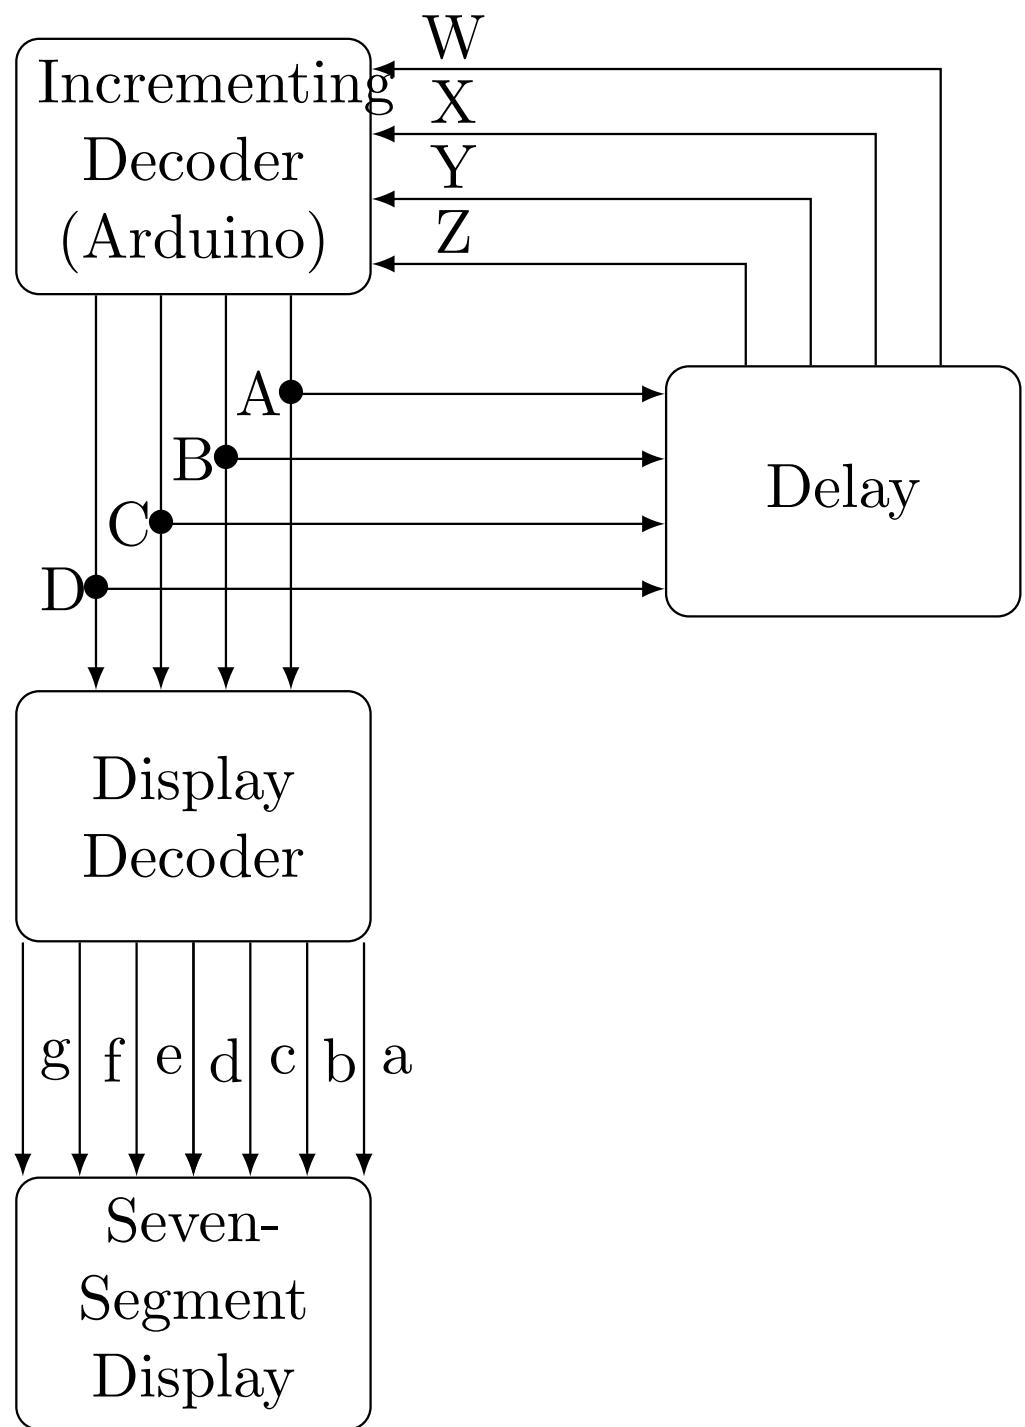
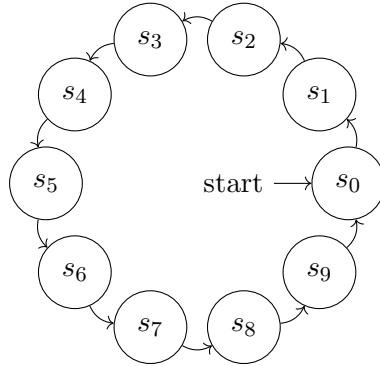
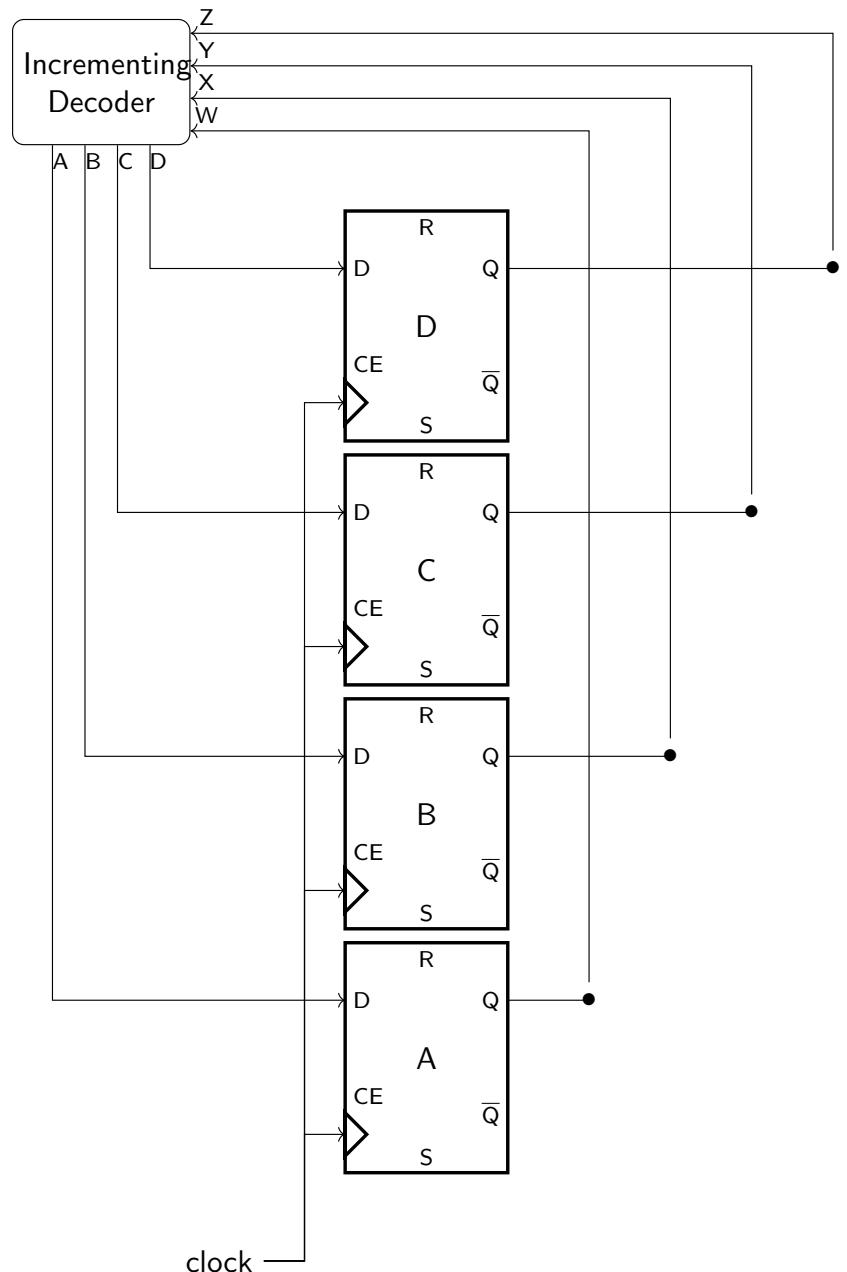

Figure 5.2:
Figure 6.1: FSM for the decade counter
Figure 6.2: Decade counter FSM implementation using D-Flip Flops
3. Realize the decade counter in Fig. 5.2.
The block diagram of a decade counter (repeatedly counts up from 0 to 9) is available in Fig 5.2 The incrementing decoder and display decoder are part of combinational logic, while the delay is part of sequential logic
1. Fig 6.1 shows a finite state machine (FSM) diagram for the decade counter in Fig 5.2
2. The FSM implementation is available in Fig 6.2 The flip-flops hold the input for the time that is given by the clock This is nothing but the implementation of the Delay block in Fig 5.2
For the FSM in Fig 6.1, the number of states is 9, hence the number flipflops required